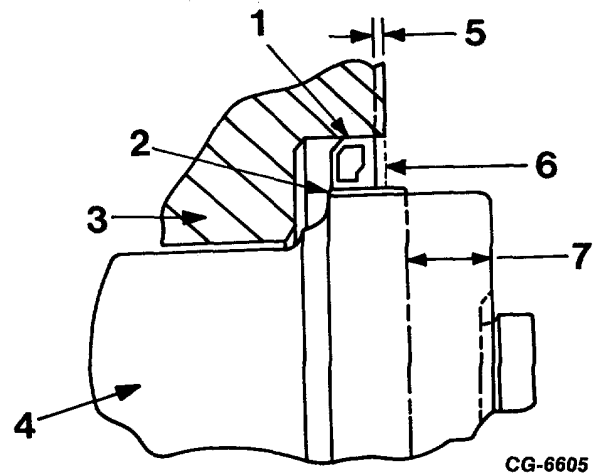

Fig. 143. Sectional View Showing Proper Location of Wear Sleeve and Rear Oil Seal
- (1) Where a new seal is being installed against a new wear sleeve, place seal flush with rear of crankcase (Figure 143).
- (2) Where a new seal is being installed against a used wear sleeve, recess seal into crankcase bore (Figure 143) to allow lip of seal to ride upon unworn surface of wear sleeve. (If wear sleeve shows more than one wear path, replace wear sleeve.)